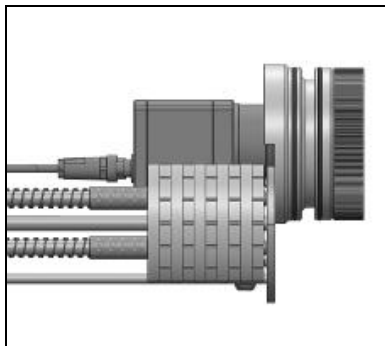
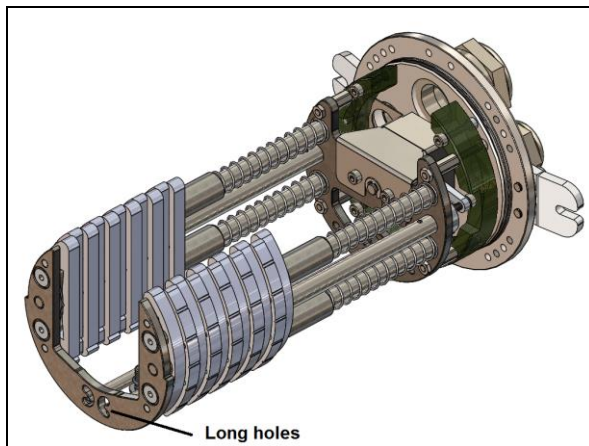
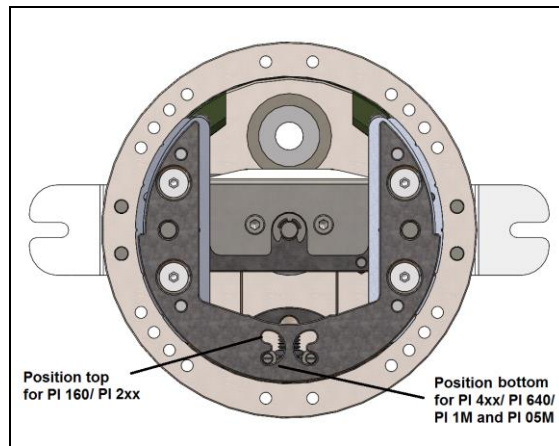
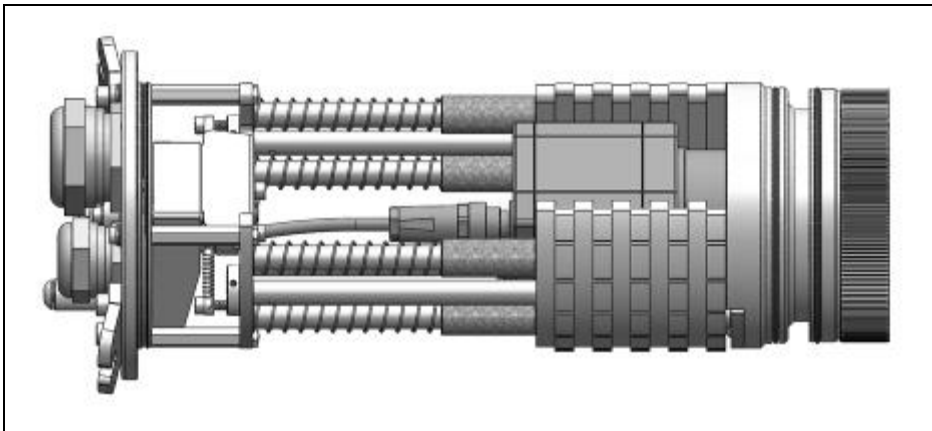

Figure 31: Inserting of the focusing unit
Figure 32: Long holes on the bottom of the chassis
Figure 33: Positioning the two bars in the slot for different cameras
Figure 34: Focusing unit with camera
2. Seat the focusing unit or front part in the chassis (**Figure 31**). Pay attention to the correct positioning of the two bars at the bottom of the chassis. These must be moved in the slot for the respective camera used (**Figure 32, Figure 33**). Position it as shown in **Figure 34**, by pushing it to the bottom.